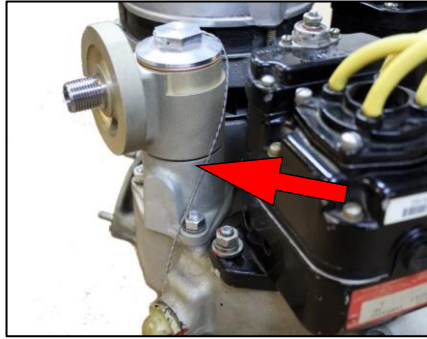

Figure 9
- a. Safety-wire the spool to a suitable location on the engine. Wrap the safety-wire around the spool/sleeve in such a manner that the spool cannot turn counterclockwise (loosening), see Figure 9, and;